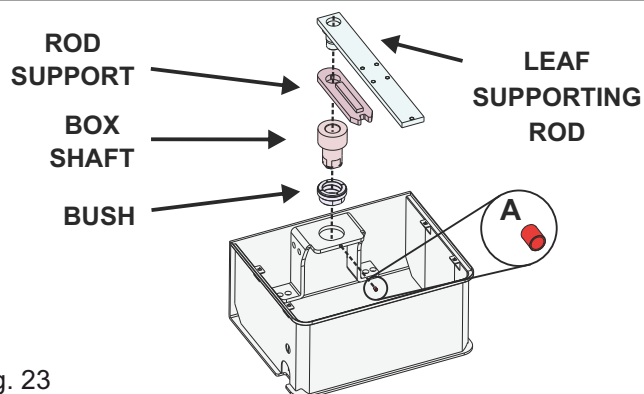

Fig. 23
6.1. Insert the sliding bushing into the box and secure it with the appropriate screw «A» (Fig. 23)
6.2. Insert all assemblies as shown in Fig. 23